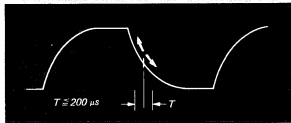

Fig. 7-8.
2. Adjust R452 for minimum hunting (less than 200  $\mu\text{s}$ ). See Fig. 7-8.